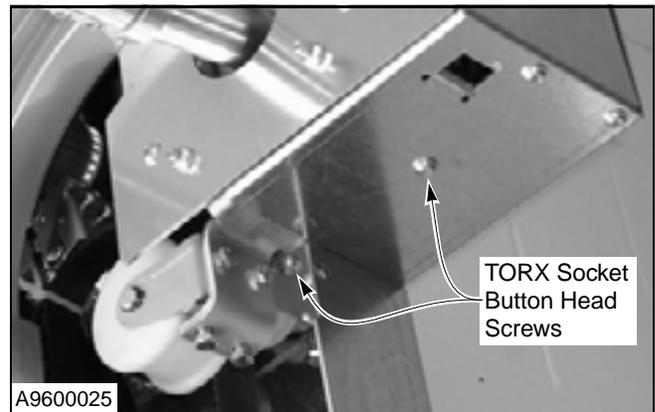

Figure 42
3. Loosen the two TORX® socket button head screws on the bottom of the console. (See Figure 42.)